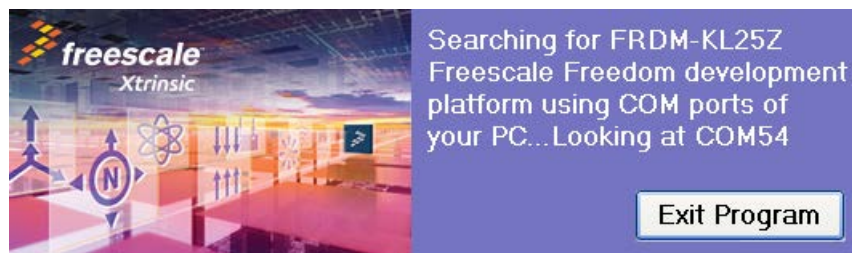

Figure 5. Launch screen
2. The launch screen shown in Figure 5 will appear until the hardware kit (with the correct firmware) is recognized by the demonstration software.